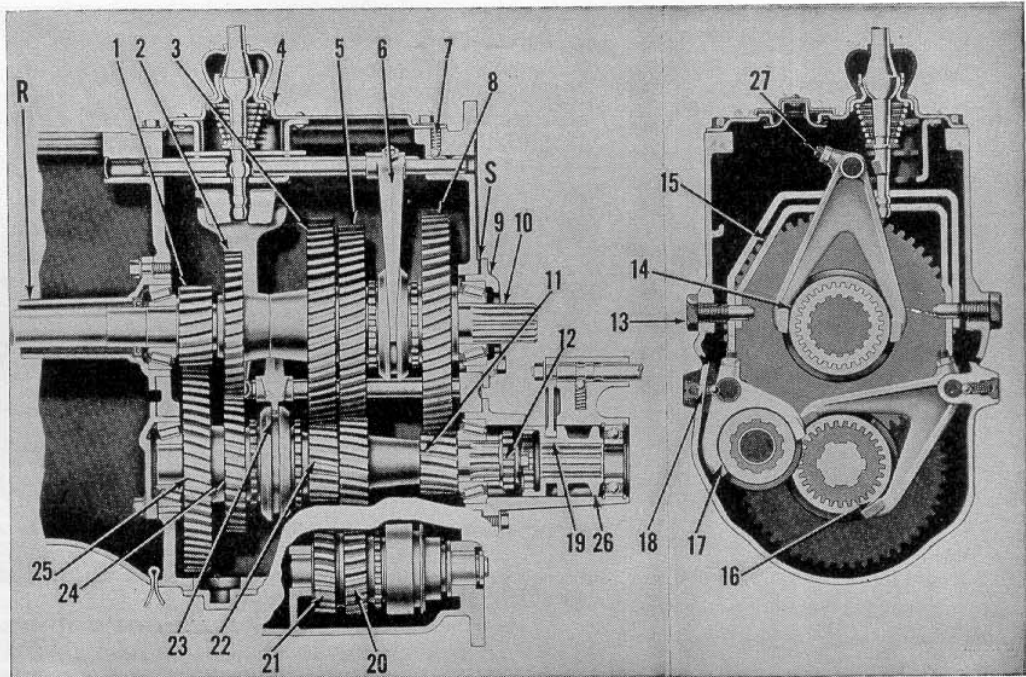

Fig. FO57—Transmission side and end views on model 8N tractor.
77. SHIFTER RAILS AND FORKS. Rails and forks may be removed without performing a front section split, after transmission cover and gear shift lever assembly are off and rear section is separated from transmission case as outlined in paragraph 70A. Lift out top shifter rail spring and detent ball (7—Fig. FO57) back off shifter fork lock screw (27) and remove shifter rail and fork. Remove shift plate
78. MAINSHAFT. After transmission is removed as outlined in paragraphs 70 and 70A and top shifter rail and fork are out, proceed as follows: Remove mainshaft rear bearing retainer (9—Fig. FO57) and shims. Remove clutch shaft (main drive gear) and retainer (R) as a unit. Remove the reverse idler shaft shift rail, allowing fork to remain in housing. Lift out the mainshaft and gear cluster as a unit. Renew worn or damaged parts and reinstall shaft and gears, assembling in
79. **MAIN DRIVE GEAR (Clutch Shaft).** This gearshaft (1—Fig. FO57) may be removed after transmission and engine are separated (as in paragraph 65). However, if bearing adjustment is required it will be necessary to perform the rear section split (as in paragraph 70A) to gain access to the mainshaft bearing shims (S) which control the adjustment. Remove gearshaft and retainer (R) as a unit. Renew worn or damaged parts and reassemble shaft
80. **COUNTERSHAFT.** This shaft (11—Fig. FO57) may be removed after mainshaft is out but before reverse